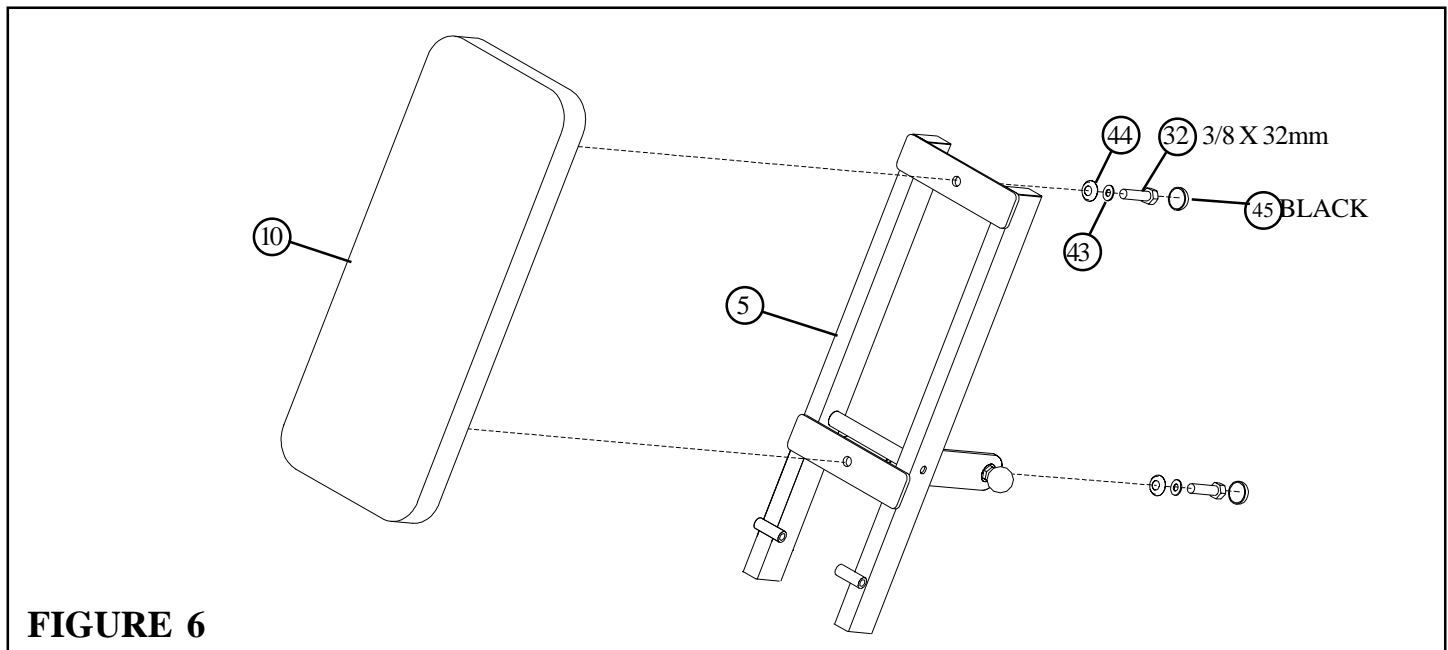

FIGURE 6
- **SECURELY** assemble the BACK PAD (10) to the LEG CURL/EXT BACK (5) using two BLACK RH CAPS (45), two 3/8 X 32mm BOLTS (32), two 3/8" SAE WASHERS (43) and two 3/8" RH WASHERS (44) as shown in FIGURE 6.